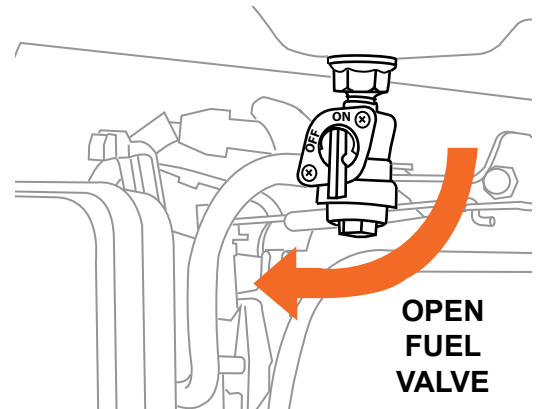

Figure 5
2. Turn the engine's fuel valve to the OPEN position (see Figure 5).